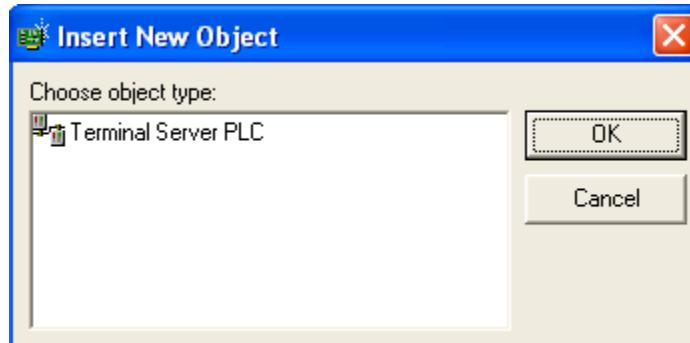

Figure 13 - Insert New Object
2. The **Insert New Object** window (Figure 13) appears.